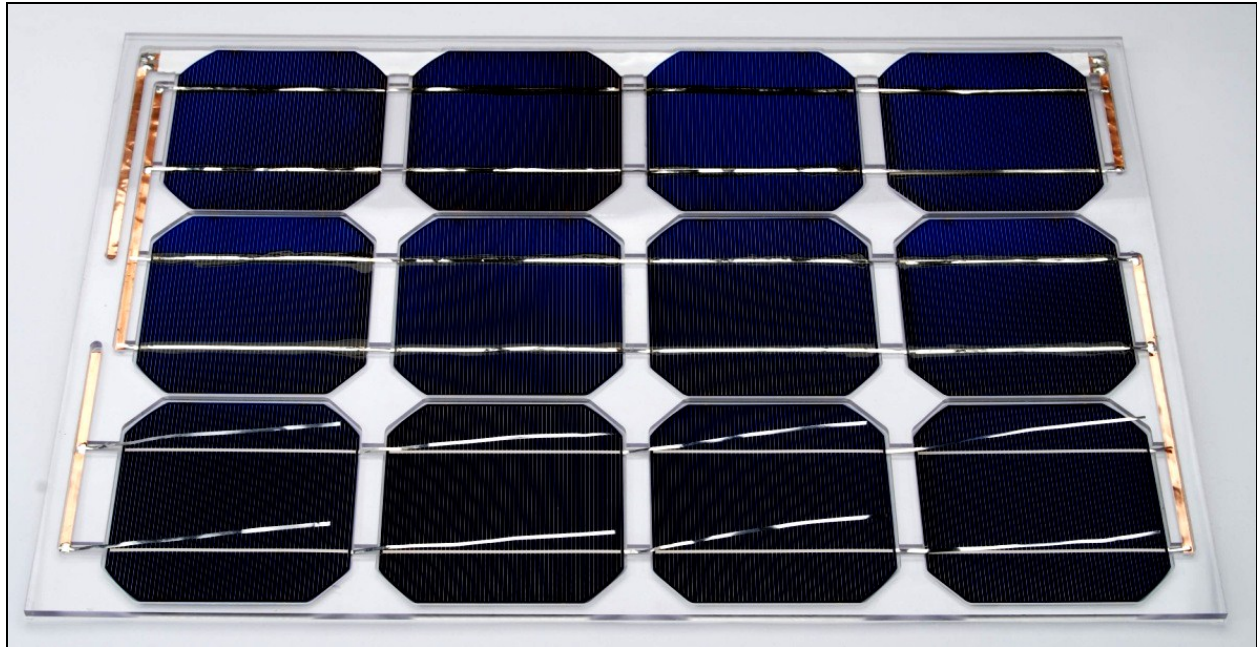

Figure 31
- ✓ Hot glue the remaining short-tabbed cell into cavity #9. Place the last three long-tabbed cells into cavities 10, 11, and 12, with their tabbing wires pointing to the right as shown in Figure 31.